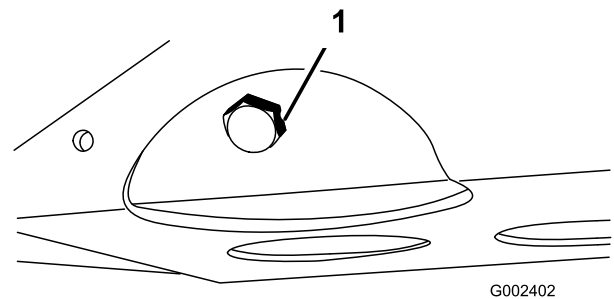

Figure 39
1. Remove the drain plug and let oil flow into a drain pan (Figure 39). When the oil stops, install the drain plug.